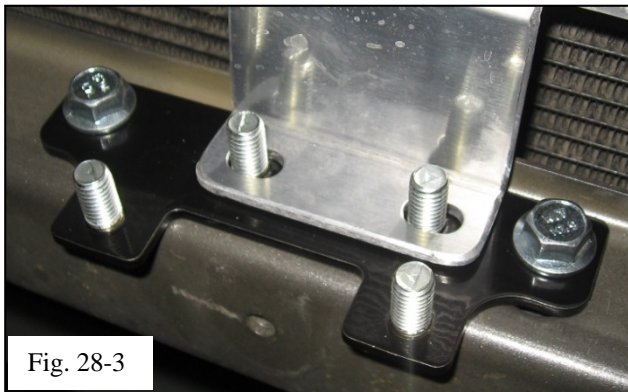

Fig. 28-3
- (2) Align the two rear M8 studs on the pump mounting bracket (Fig. 28-3).